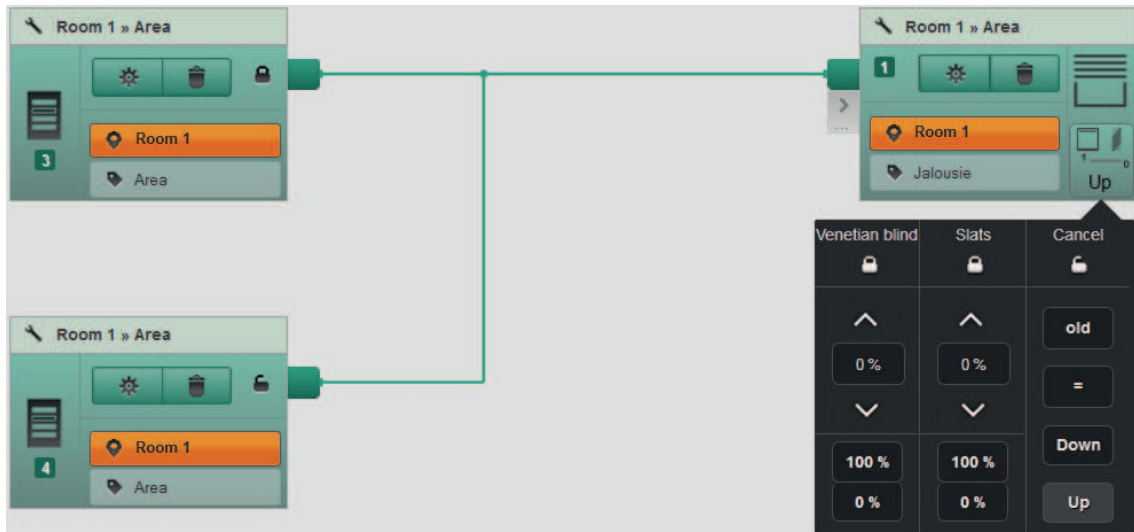

Figure 59: Assigning the actuator values for recalling and removing the disabling scene
- Set the actuator values for recalling and removing the scene. To do this, click the extension of the device tile of the actuator and set the values for Recall  and Remove  of the scene (Figure 59).